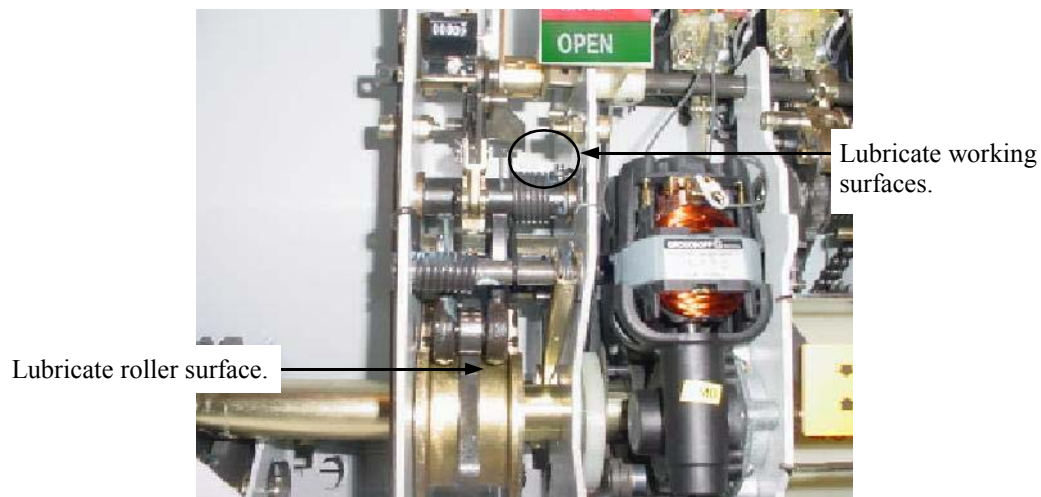

FIGURE 4b: LATCHING SURFACES
Always lubricate the working surface of the Cams (B) and the entire Motor Linkage Assembly (P). Verify lubrication on latching surfaces located above the Charging Motor (D) in the mechanism (See Fig 4b). Remove any grease on the breaker frame. Use ISOFLEX TOPAS NB52 grease for lubrication (ABB No. ????????, 4 oz. tube). If the grease becomes caked and dirty, remove with a clean cloth and reapply lubrication. Use of incorrect lubricant may cause breaker to malfunction.